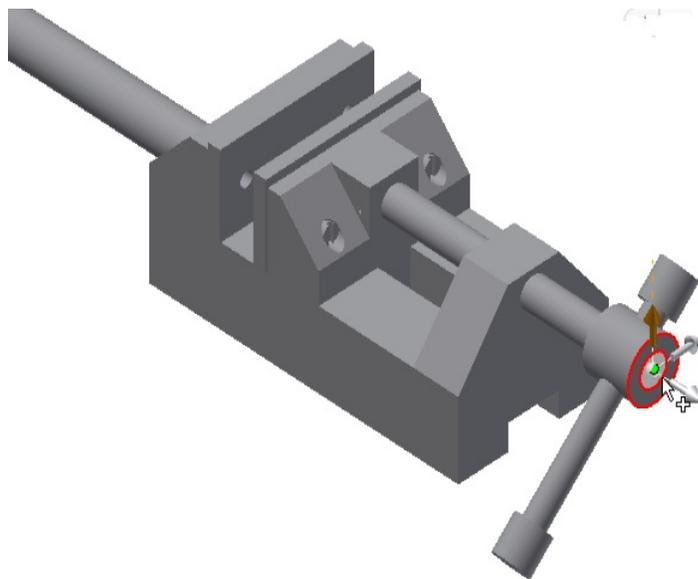

Figure 13-20 Defining the tweak direction on the head of the Clamp Screw
2. Move the cursor close to the cylindrical face of the head of the Clamp Screw, see Figure 13-20.
You will notice that the head of the Clamp Screw is displayed with a red outline and a triad is displayed on the component. Also, the direction arrow of the triad is oriented along the Z axis of the world coordinate system and displayed in dark brown if the **World** option is selected from the **Orientation** drop-down list, refer to Figure 13-20.